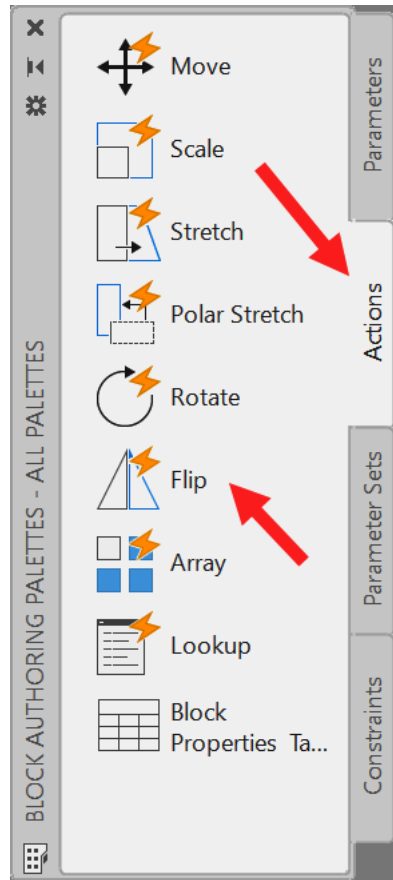

Figure 11.17: The Actions tab on Block Authoring Palette
11. Select the **Actions** tab on **Block Authoring Palette**, as shown in *Figure 11.17*. The **Flip** action is also shown.